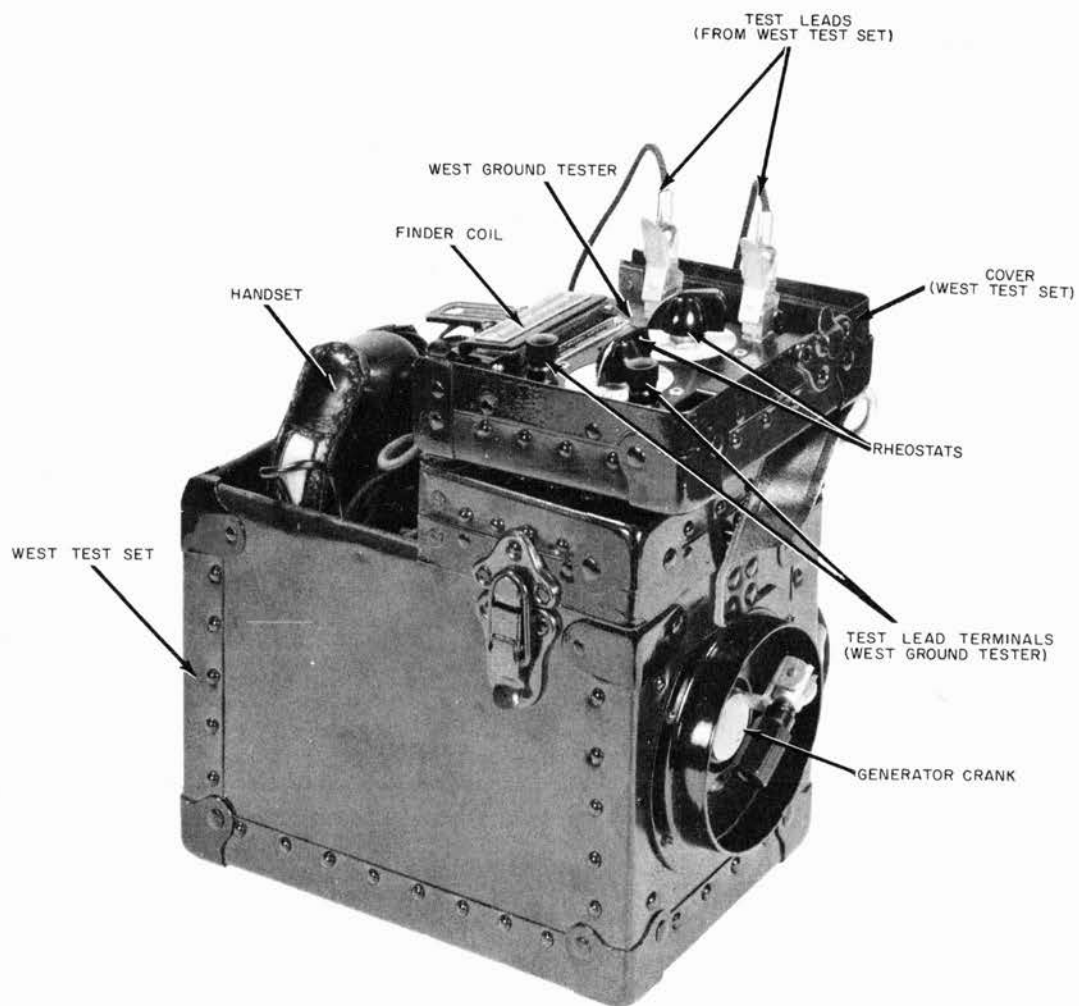

Figure 1. West Ground Tester attached to the cover of the West Test Set.
Two test leads, each terminated with a spade lug and test clip are provided with the ground tester. Two round-head wood screws and washers are provided for securing the tester to the cover of the test set. Figure 1 shows the tester connected to the West Test Set.
- a. Place ground tester in cover of test set as shown in figure 1. Secure with the screws and washers provided.